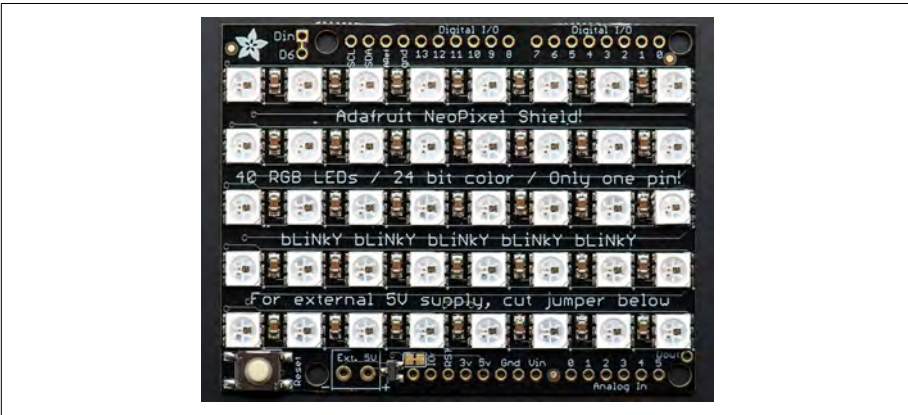

Figure 8-65. Adafruit 40 RGB LED pixel matrix
- Adafruit NeoPixel Shield (Figure 8-65)